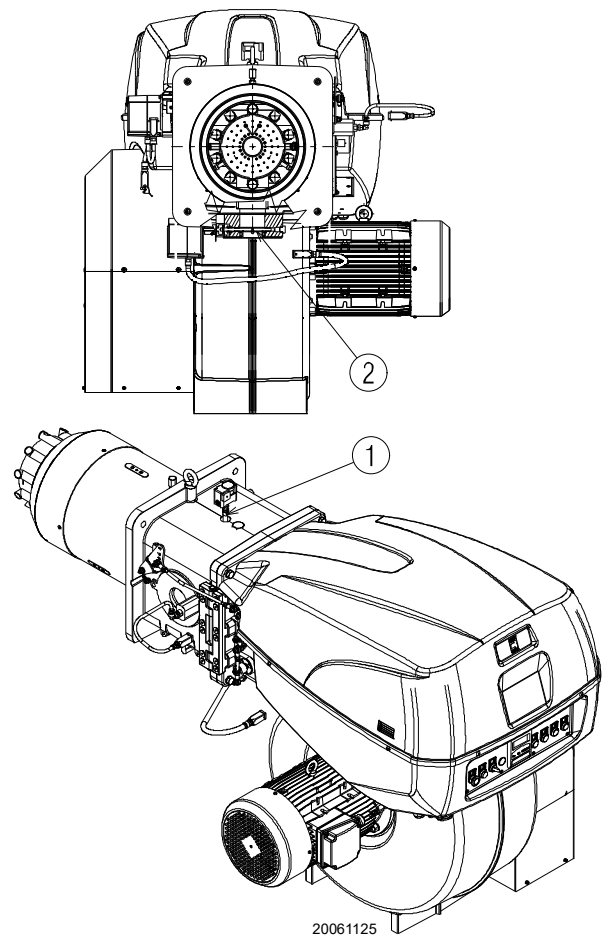

Fig. 19
Gas pressure measured at the test point 1)(Fig. 19), with:
Pressure loss at gas butterfly valve 2)(Fig. 19) with maximum opening: 90°.
- subtract the combustion chamber pressure from the gas pressure measured at test point 1)(Fig. 19).
Gas pressure at test point 1)(Fig. 19) = 59.2 mbar
To calculate the required gas pressure at test point 1)(Fig. 19), set the maximum modulating output required from the burner operation:
- read, on the right (column 1), the pressure at the test point 1)(Fig. 19).
Pressure required at test point 1)(Fig. 19).